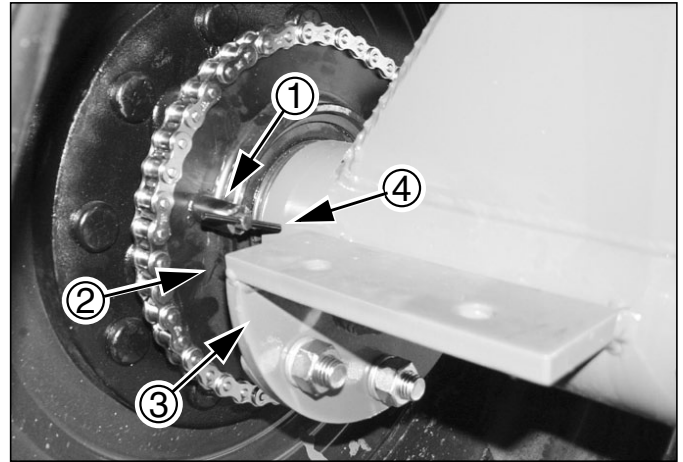

Figure 33
Refer to Figure 33, which depicts the primary drive sprocket locked out.
2. Pull the cross-pin ④ toward machine center, rotate it 90 degrees (one quarter turn), and position it in the shallow receiver detents, as shown in Figure 33.